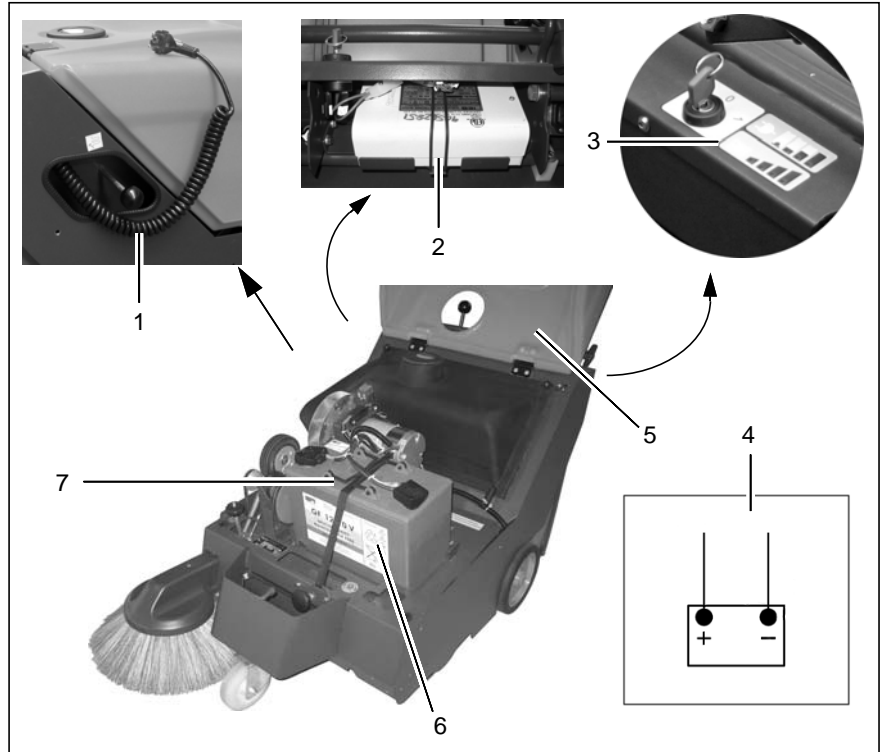

Fig. 15
During operation, the battery discharge indicator in the operating panel (Fig. 15/3) indicates the discharge status of the battery, refer to Section 3.2.2, Section "Battery discharge status (Fig. 10/3)". The battery must be charged immediately the red LED lights up. The battery (Fig. 15/6) is recharged using the integrated on-board charger (Fig. 15/2):
2. Remove the charger cable (Fig. 15/1) from the recess on the right-hand side of the machine.
3. Plug the charger cable (Fig. 15/1) in a 115 V power outlet.
While the battery is charging, the charge control indicator lights up in the operating panel (Fig. 15/3), refer to Section 3.2.2, Section "Charge control indicator (Fig. 10/2)".
1. Unlock the hood (Fig. 15/5) using a square wrench and open the hood (Fig. 15/5).
2. Disconnect the negative cable from the battery (Fig. 15/6).
3. Disconnect the positive cable from the battery (Fig. 15/6).
5. Take hold of the battery (Fig. 15/6) by their handles (Fig. 15/7) and lift them out.
2. Take hold of the battery (Fig. 15/6) by their handles (Fig. 15/7) and install them at their prescribed positions in the machine, refer to Figure 15.
4. Connect the battery (Fig. 15/6) in accordance with the connection diagram (Fig. 15/4).
5. Connect the negative cable of the machine to the battery (Fig. 15/6) installed in the machine.
6. Connect the positive cable of the machine to the battery (Fig. 15/6) installed in the machine, refer to Section 2.1.4.
7. Close the hood (Fig. 15/5) so that it audibly locks.